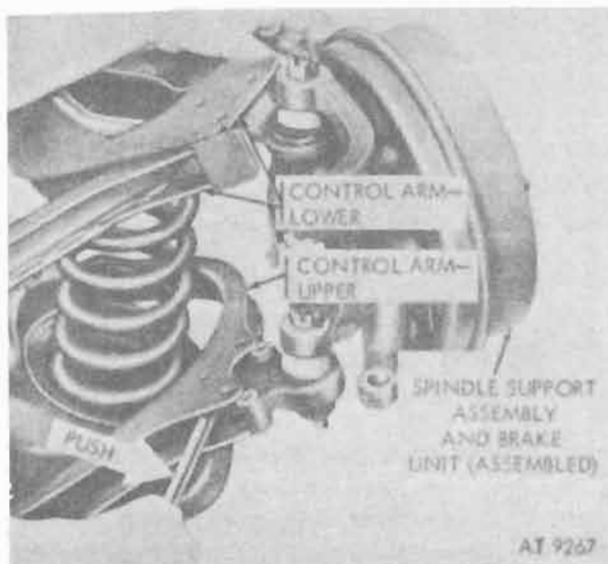

Figure 10-23. Removal of right spindle support assembly and brake unit.
c. Remove right and left spindle support, ball joints, and brake unit from control arms as an assembly (fig. 10-23).